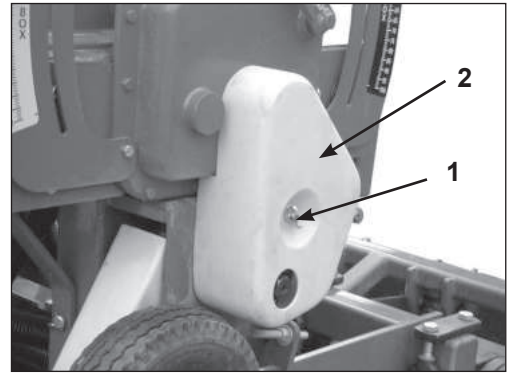

Fig 14
To change the speed setting from high to low, remove the wing nut (1) and chain cover.(2) (Fig 14).